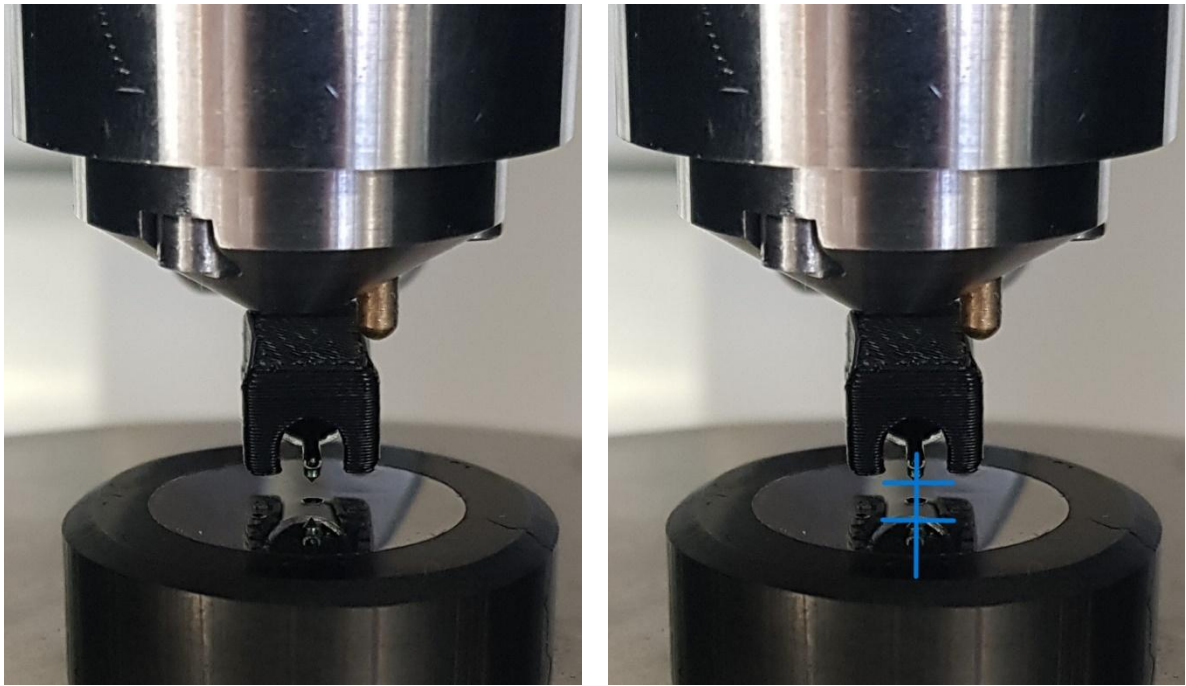

Figure 3.3 Profilometer positioning guide
7. Move the profilometer so that it is above the indent – this is done with the appropriate arrows on screen. **Do not move the sample manually for the operation, only use the arrows.** It is important that the tip is positioned such that the tip is aligned with centre of the indent in the x direction. This should be checked visually, looking through the workspace, as shown in Figure 3.3. When this is lined up close to the centre, use the y control to do the same in the y direction – this is less critical in terms of getting close to the indent, but an attempt should be made to get as close as possible. When this is completed, click “Yes”.
7. Move the profilometer so that it is above the indent – this is done with the appropriate arrows on screen. It is important that the tip should be positioned such that it is aligned with centre of the indent in the x direction. This should be checked visually, looking through the workspace, as shown in Figure 3.3. When this is lined up close to the centre, use the y control to do the same in the y direction – this is less critical in terms of getting close to the indent, but an attempt should be made to get as close as possible. When this has been completed, click “Yes”.
5. A dialogue box now appears, for positioning of the (x, y) location of the profilometer so that it can scan the indent. This is done via the x- and y-direction arrows within the dialogue box. It is important that the tip is positioned such the tip is aligned with centre of the indent in the x direction. This should be checked visually, looking through the workspace, as shown in Figure 3.3. When this is lined up close to the centre, use the y control to do the same in the y direction – this is less crucial in terms of getting close to the indent, but one should try to get as close as possible. When this is completed, click Yes.